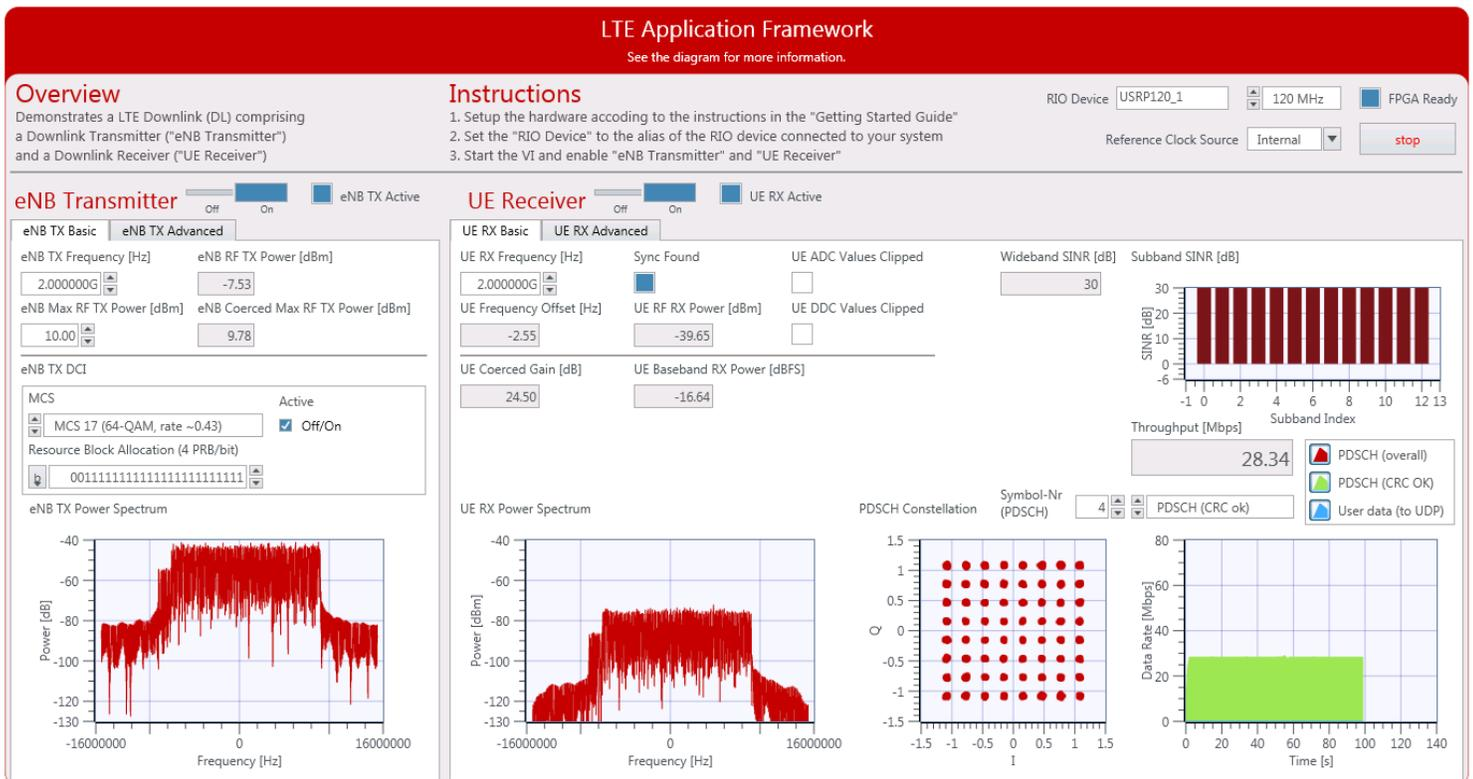
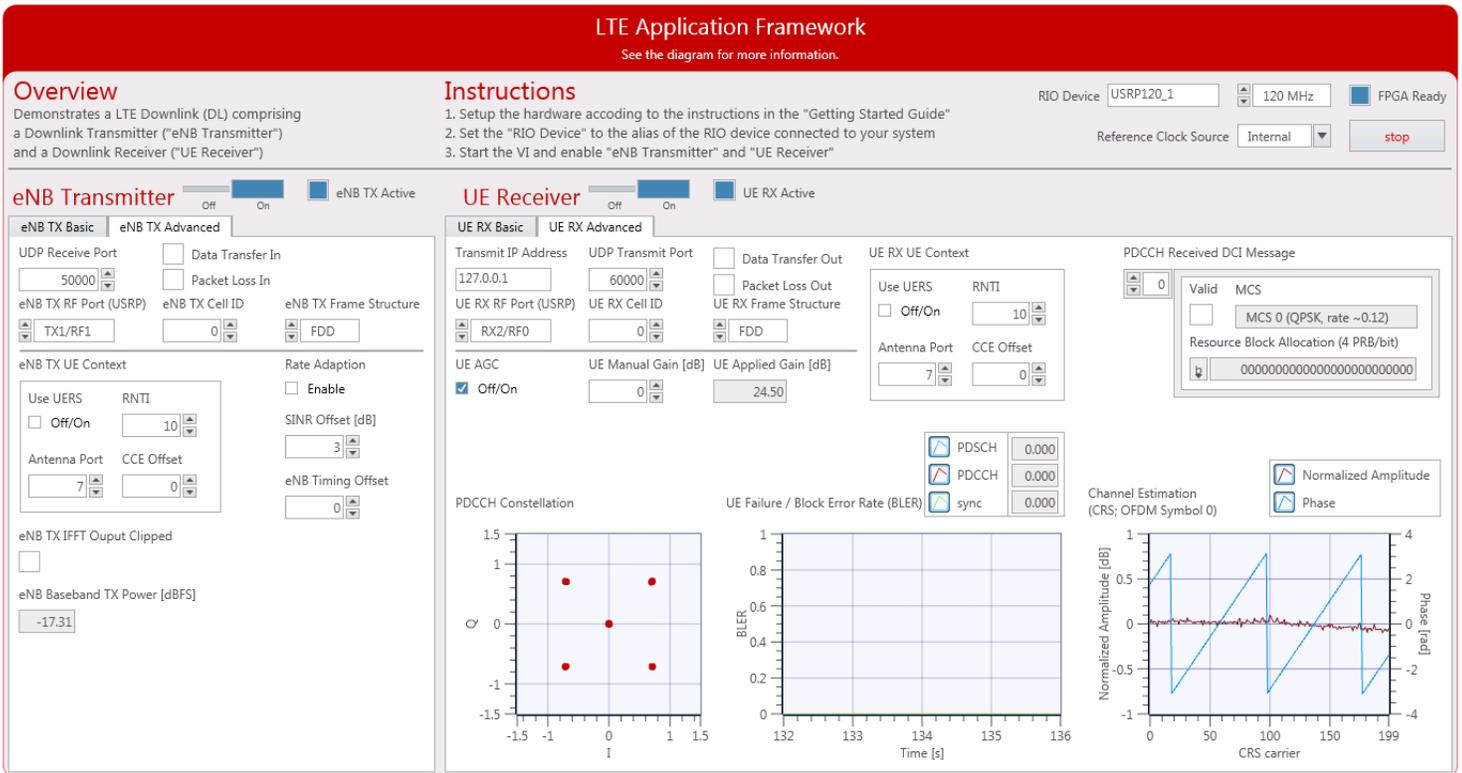

Figure 8 Front panel of LTE Host DL.gvi / Basic Tab when running successfully
Figure 9 Front panel of LTE Host DL.gvi / Advanced Tab when running successfully
If the system is running as expected, the downlink signal generated by the transmitter is correctly received and decoded by the receiver. In this case, the host panel should appear as shown in Figure 8 and Figure 9.
- **Normalized Amplitude:** If using a cabled setup: flat curve around 0 as shown in Figure 9; if using an over-the-air setup: any curve (high and lows indicate a frequency-selective channel caused by multipath fading)
- **Phase:** If using a cabled setup: saw tooth curve (straight line, wrapping two times) as shown in Figure 9 (indicating that FFT cuts slightly into the cyclic prefix)